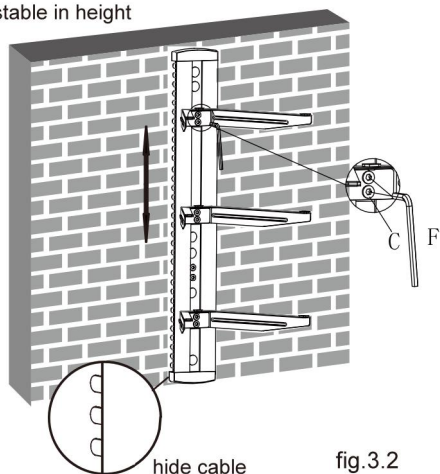

fig.3.2
- You can adjust the height of the glass holders as needed. Loosen the screws with a 3mm Allen key (but not remove) to adjust the glass holders at the desired height and then tighten screws with a 3mm Allen key as shown in fig.3.2.